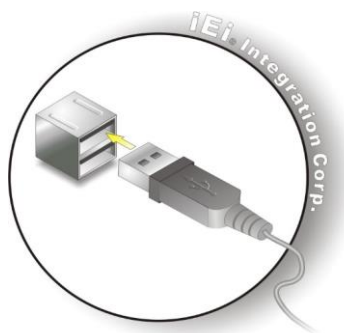

Figure 5-14: USB Connection
Step 2: **Align the connectors**. Align the USB device connector with one of the connectors on the I/O panel (**See Figure 5-14**).